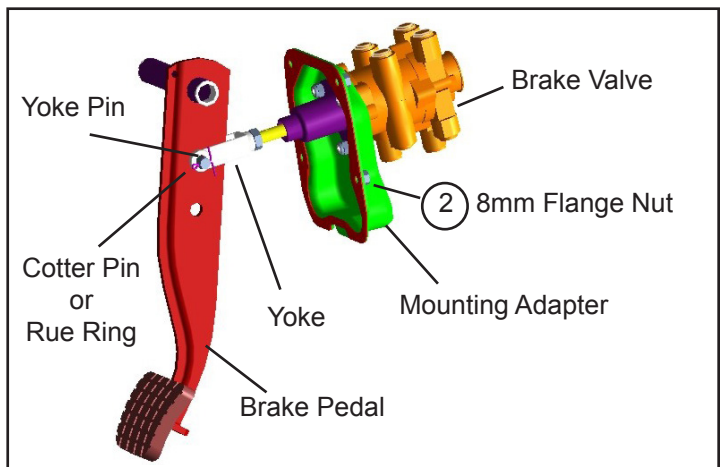
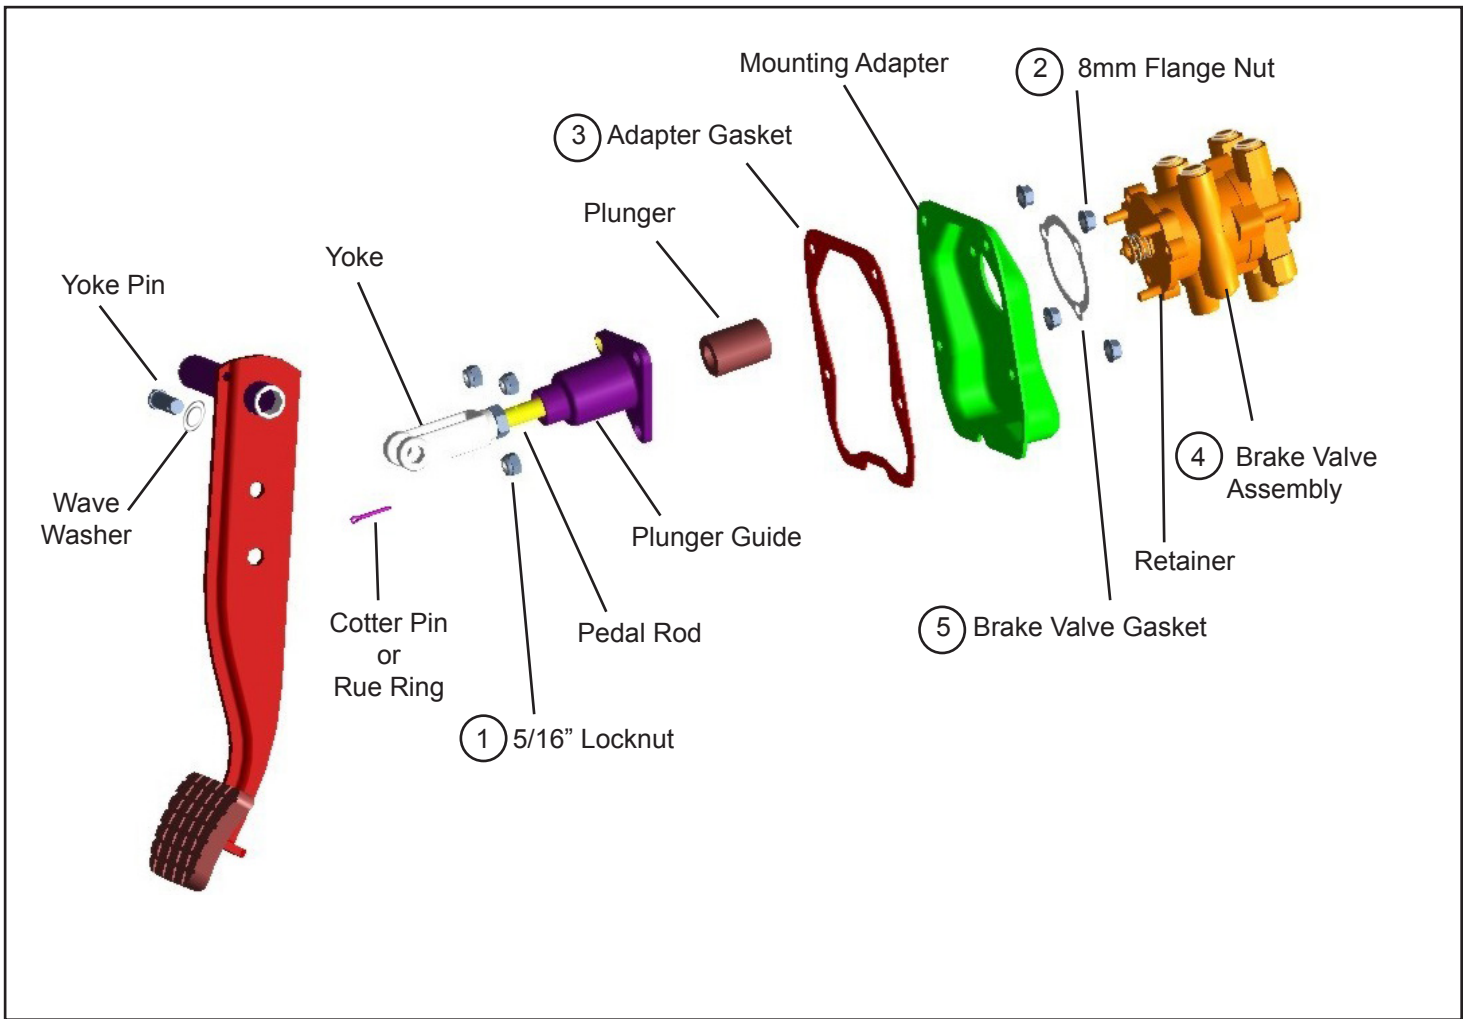

Figure 2 Brake Valve and Pedal Assembly
Figure 5 Brake Valve Exploded View
2. From the passenger side of the cab, remove the brake valve cotter pin or rue ring, yoke pin and wave washer. A mallet and punch may be necessary for removal. *Refer to Figures 2 and 3.*
3. From the engine side of the dash panel, note and mark the orientation of the brake valve mounting adapter on the dash panel. Remove the four 8mm flange nuts (2) that secure the mounting adapter to the vehicle dash panel. Remove the brake valve assembly (4). Use caution when pulling the yoke through the dash panel.
6. Separate the brake valve, brake valve gasket (5), mounting adapter and plunger. *Refer to Figure 5.*
1. Place the brake valve gasket (5), if applicable, and brake valve on the brake valve mounting adapter in the proper orientation. *Note: Brake valve gasket (5) is not required if the brake valve retainer is rubber coated.* A black retainer indicates a rubber coating has been applied and a yellow retainer indicates a gasket is needed. Refer to Figure 5.
3. Install the plunger guide and yoke assembly (with the plunger) on the brake valve mounting adapter, aligning the mounting holes with the brake valve studs. The plunger guide fits over the brake valve piston and spring. Secure with the three 5/16" locknuts (1). Tighten to 100-140 in-lbs.
4. From the engine side of the dash panel, place the adapter gasket (3) over the brake valve mounting adapter studs in the dash panel. Insert the yoke end of the brake valve assembly (4) through the opening in the dash panel, aligning the yoke so that it straddles the brake pedal. Exercise caution to prevent damage to the yoke and plunger guide.
5. Using the four 8mm flange nuts (2) secure the brake valve assembly to the dash panel. Tighten the nuts to 200-280 in-lbs.